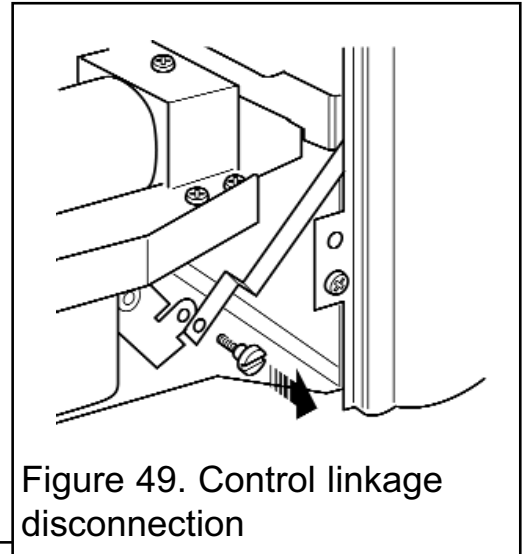

Figure 49. Control linkage disconnection
2. Detach the control-linking bar from the control pivot bracket by removing the knurled screw, which joins the control linking bar to the control pivot unit (See figure 49).